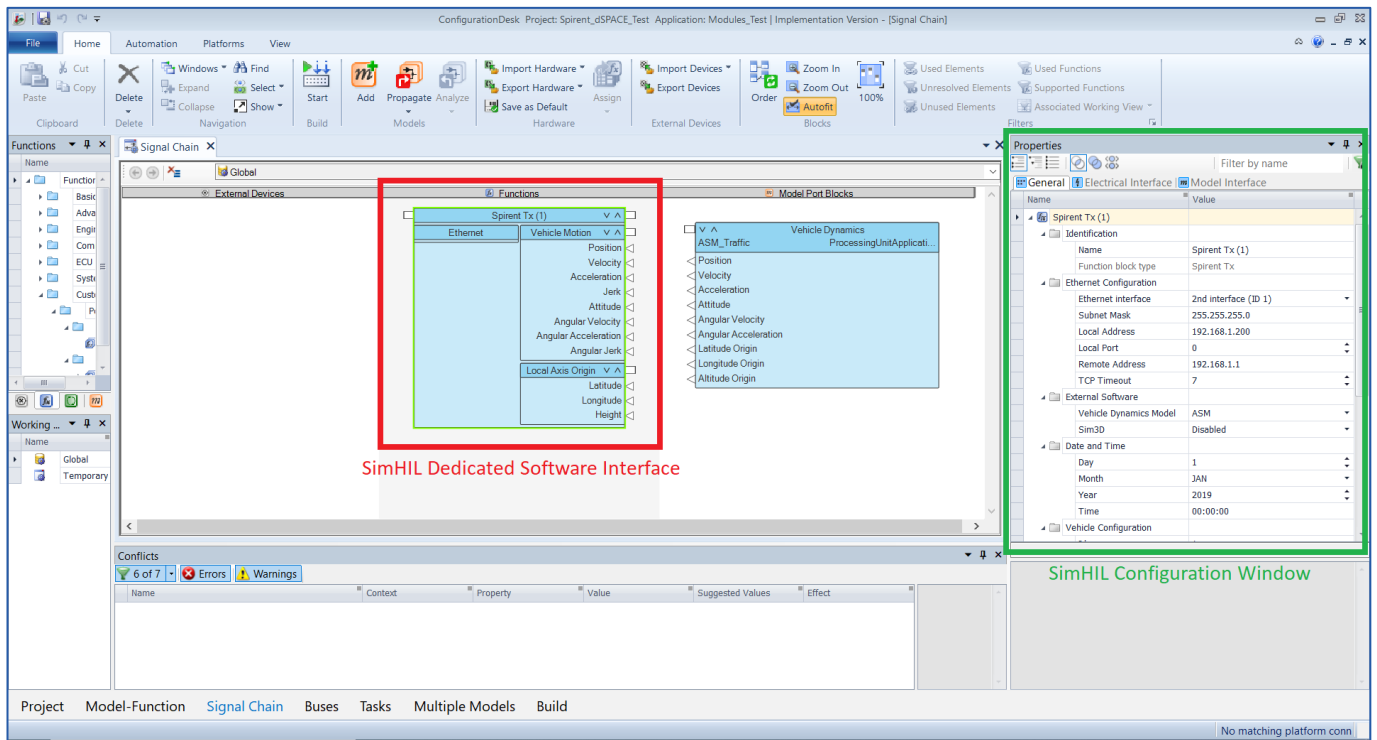

Figure 2: dSPACE ConfigurationDesk with SimHIL Loaded
- Figure 2: dSPACE ConfigurationDesk with SimHIL Loaded 8
All the configuration aspects of the GNSS simulator are done from the DSI loaded in the third-party environment, before running the user application. Figure 2 shows an example on dSPACE ConfigurationDesk.